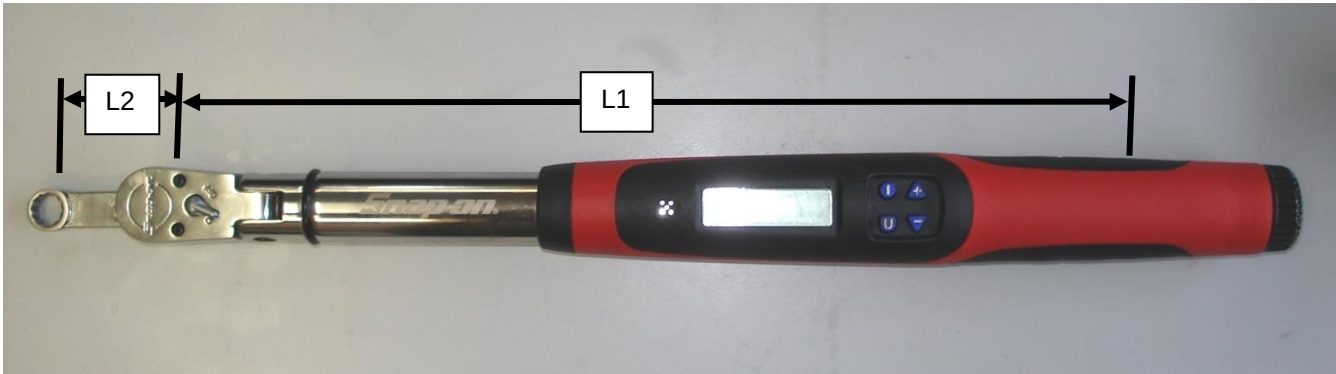

Figure 12 – Torque Wrench & Crowsfoot Adaptor Setting 1
- A “Crowsfoot” extension as shown in Figure 10 is sometimes necessary – it allows high torque settings to be used on small nuts without damaging them and access to difficult locations. However, when using the extension as shown in Figure 12 the extra length will throw off the torque setting of the wrench. This must be corrected using the following formula:
- For example: a nut needs to be tensioned to 30lb.ft. The torque wrench is 12” long and the crowsfoot extension is 2” long. The extension is oriented as shown in Figure 12. This means that the torque wrench must be set to: